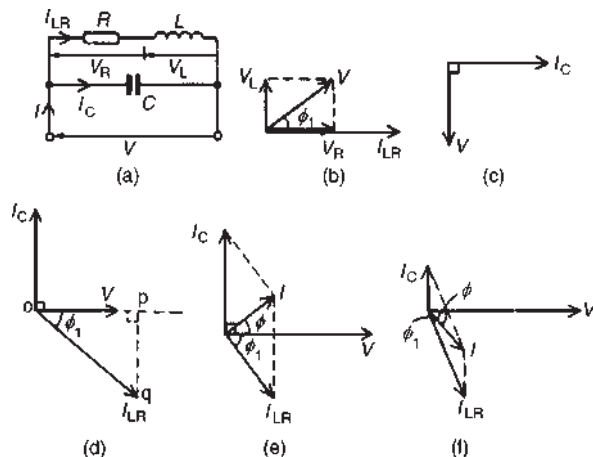

Figure 16.5
In the two branch circuit containing capacitance C in parallel with inductance L and resistance R in series (such as a coil) shown in Fig. 16.5(a), the phasor diagram for the LR branch alone is shown in Fig. 16.5(b) and the phasor diagram for the C branch is shown alone in Fig. 16.5(c). Rotating each and superimposing on one another gives the complete phasor diagram shown in Fig. 16.5(d).
The current I_{LR} of Fig. 16.5(d) may be resolved into horizontal and vertical components. The horizontal component, shown as op is $I_{LR} \cos \phi_1$ and the vertical
- $I_C > I_{LR} \sin \phi_1$ (giving a supply current I leading V by angle ϕ —as shown in Fig. 16.5(e))
- $I_{LR} \sin \phi > I_C$ (giving I lagging V by angle ϕ —as shown in Fig. 16.5(f))
There are two methods of finding the phasor sum of currents I_{LR} and I_C in Fig. 16.5(e) and (f). These are: (i) by a scaled phasor diagram, or (ii) by resolving each current into their ‘in-phase’ (i.e. horizontal) and ‘quadrature’ (i.e. vertical) components, as demonstrated in problems 6 and 7. With reference to the phasor diagrams of Fig. 16.5: